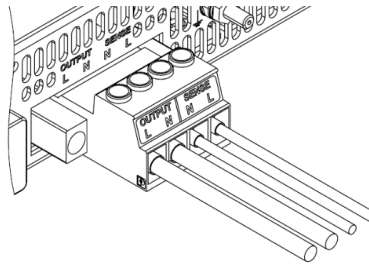

Figure 7-16: Tightening the Connector to the Power Source
6. Tighten the connector to the power source rear panel as shown in **Figure 7-16** using a tightening torque of 3–6 lbf-inch (0.3–0.7Nm).